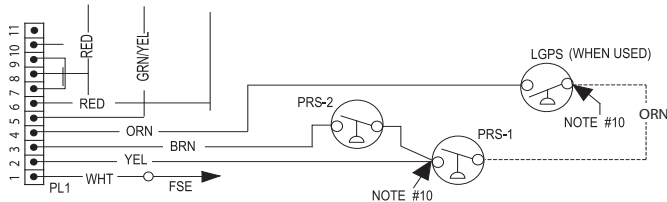

Fig. 19 – Pressure Switch Wiring
1. Remove the orange wire from the terminal on the Low Pressure Switch. See Fig. 19.